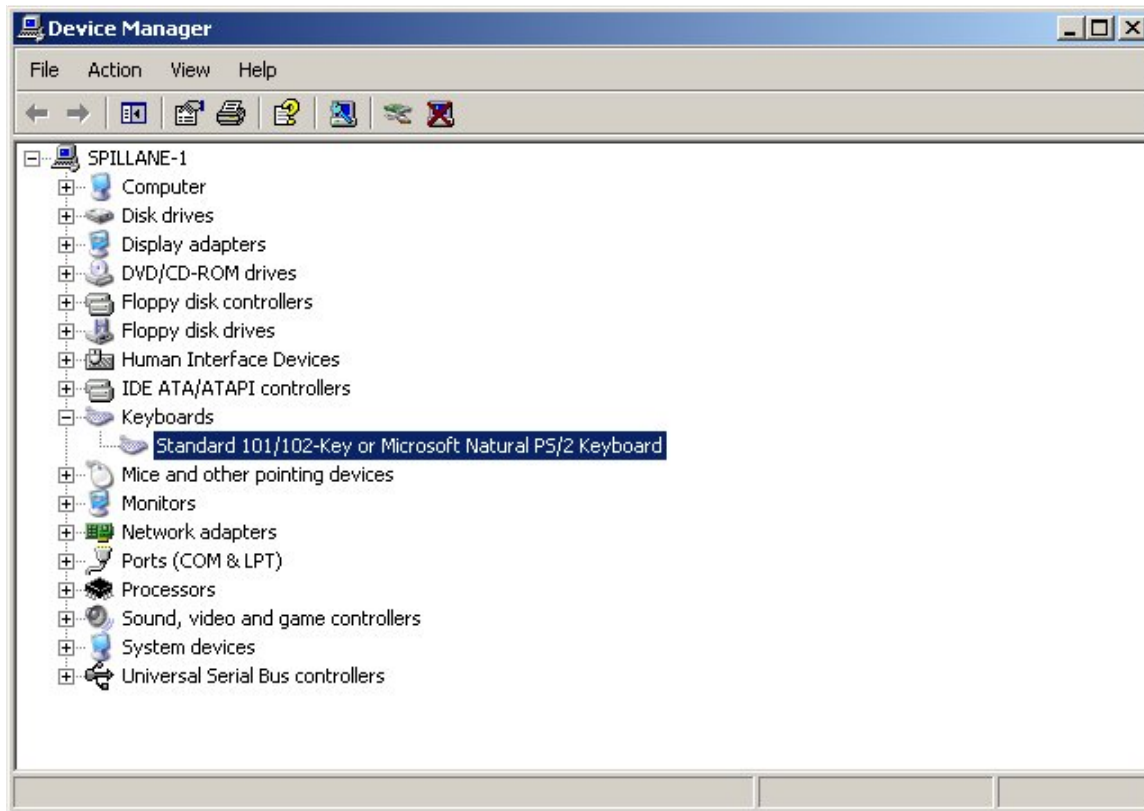

FIGURE 254. Device Manager window
7. If the Keyboards icon is not already expanded, click on the “+” to make it display as in Figure 254.